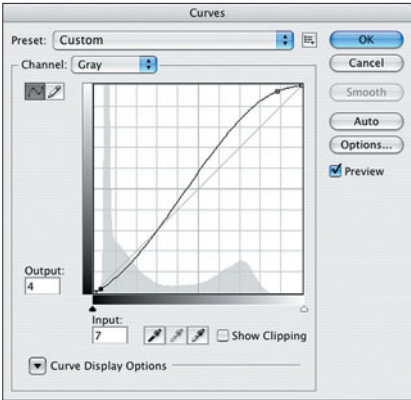

Figure 7.63 I create an S-shaped curve for greater contrast.
- 6. Adjust global image contrast (see Figures 7.63 and 7.64).